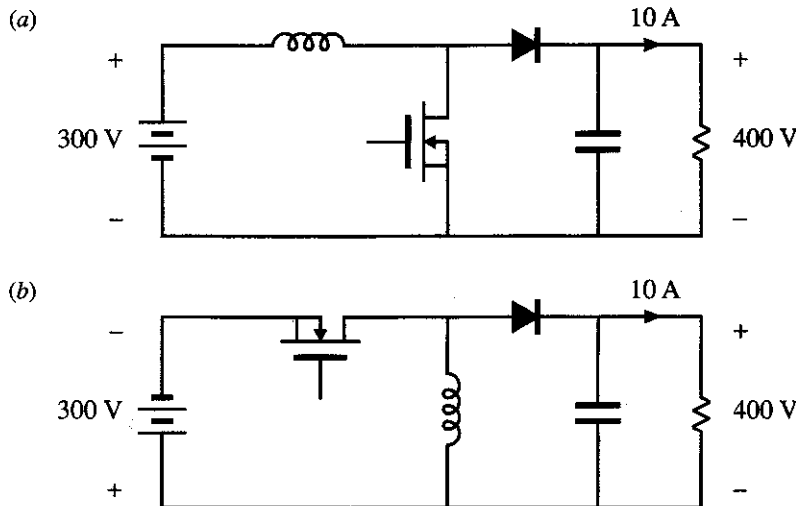

Fig. 3.33.
3.6 It is desired to interface a 300 V battery to a 400 V, 10 A load using a dc-dc converter. Two possible approaches, using boost and buck-boost converters, are illustrated in Fig. 3.33. Using the assumptions described above (before Problem 3.5), determine the efficiency and power loss of each approach. Which converter is better for this application?